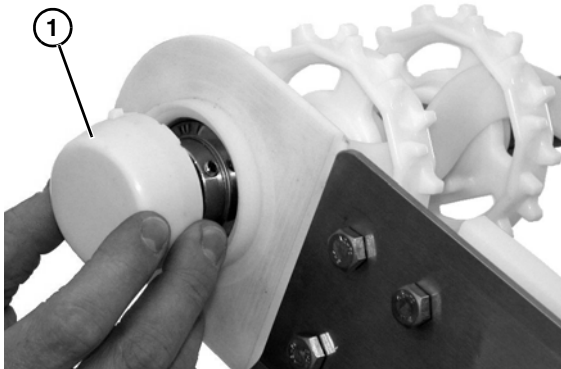

Figure 55
3. Remove bearing cover (Figure 55, item 1).